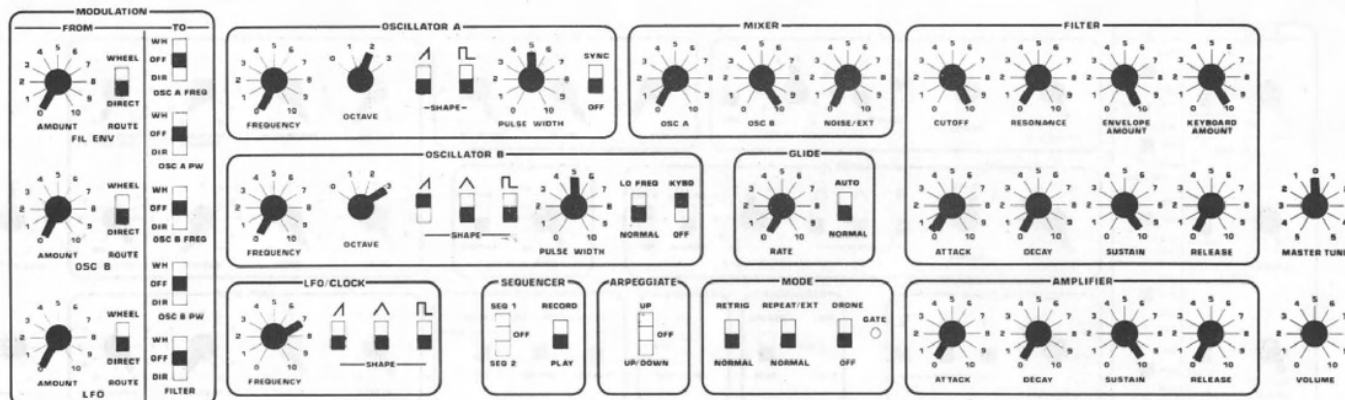

Figure 1-2
1. Patch according to Figure 1-2.